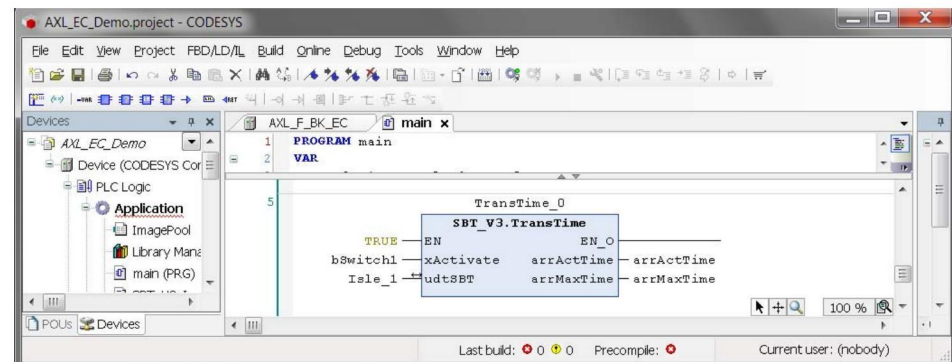

Figure 3-25 SBT_V3.TransTime function blocks
- Connect the function blocks as shown in Figure 3-25.